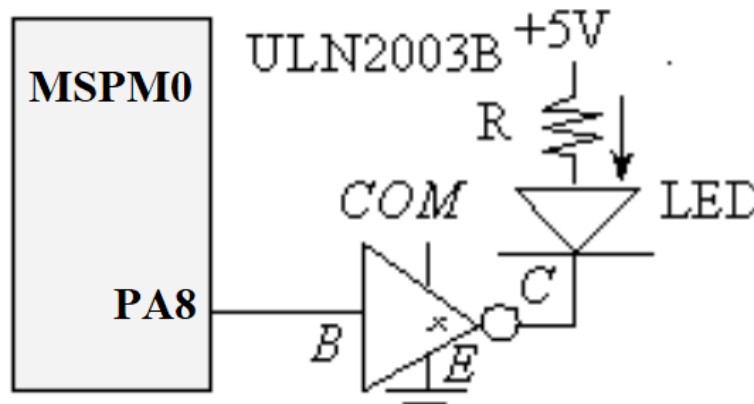

Figure 8. IR LED interface for ECE319H. COM is floating
Step 6) ECE319K Lab 8 uses PA8 (U1Tx) and PA22 (U2Rx) to implement serial communication with another system. Add a 3-pin shorting jumper, like J3 in Figure 8. To simplify Lab 8, we will connect PA8, PA22, GND to this 3-pin header. We can then place a shorting jumper across PA8 to PA22 to debug Lab 8 (loop back mode). The normal solution to Lab 8 uses two boards with a 3-pin cable connecting PA8-PA22, PA22-PA8, and GND-GND.